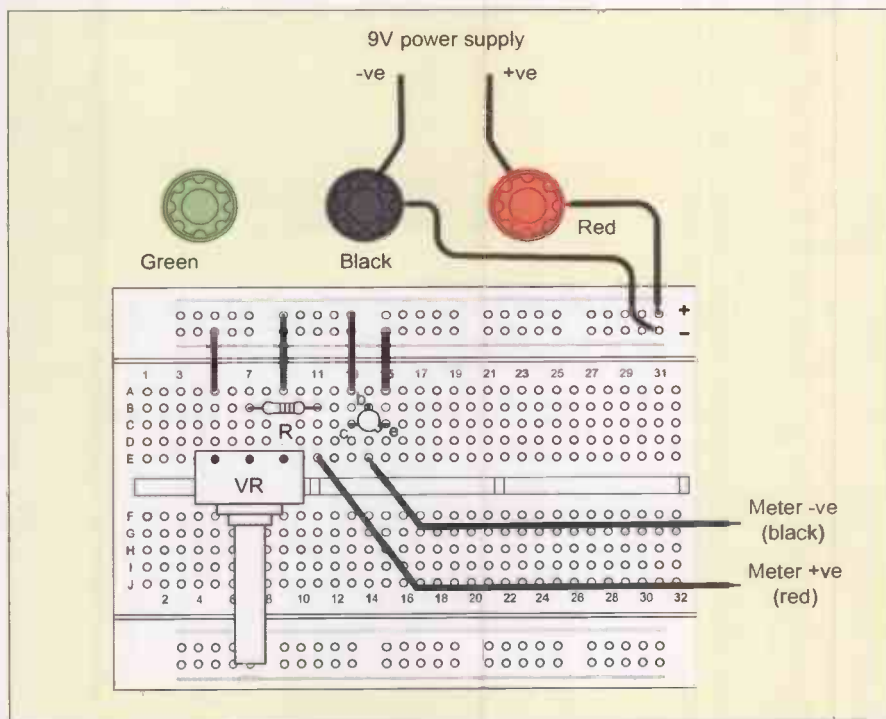

Fig. 6.21. Wiring diagram for setting the base current in Practical Investigation 6.1
Wiring diagram: See Fig. 6.21 and 6.22
1. Connect the circuit in Fig. 6.20a as shown in breadboard Fig. 6.21 and Table 6.6. Before switching on the supply (or connecting the battery), set the meter to the DC 2mA range and the variable resistor VR_1 to minimum position (i.e. fully anticlockwise).
Table 6.6 To set the base current in Fig.6.21